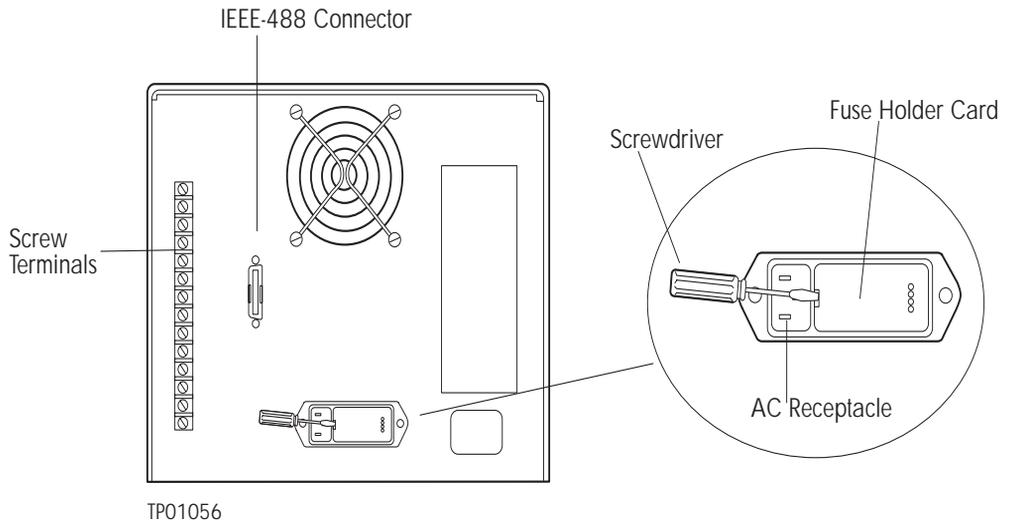
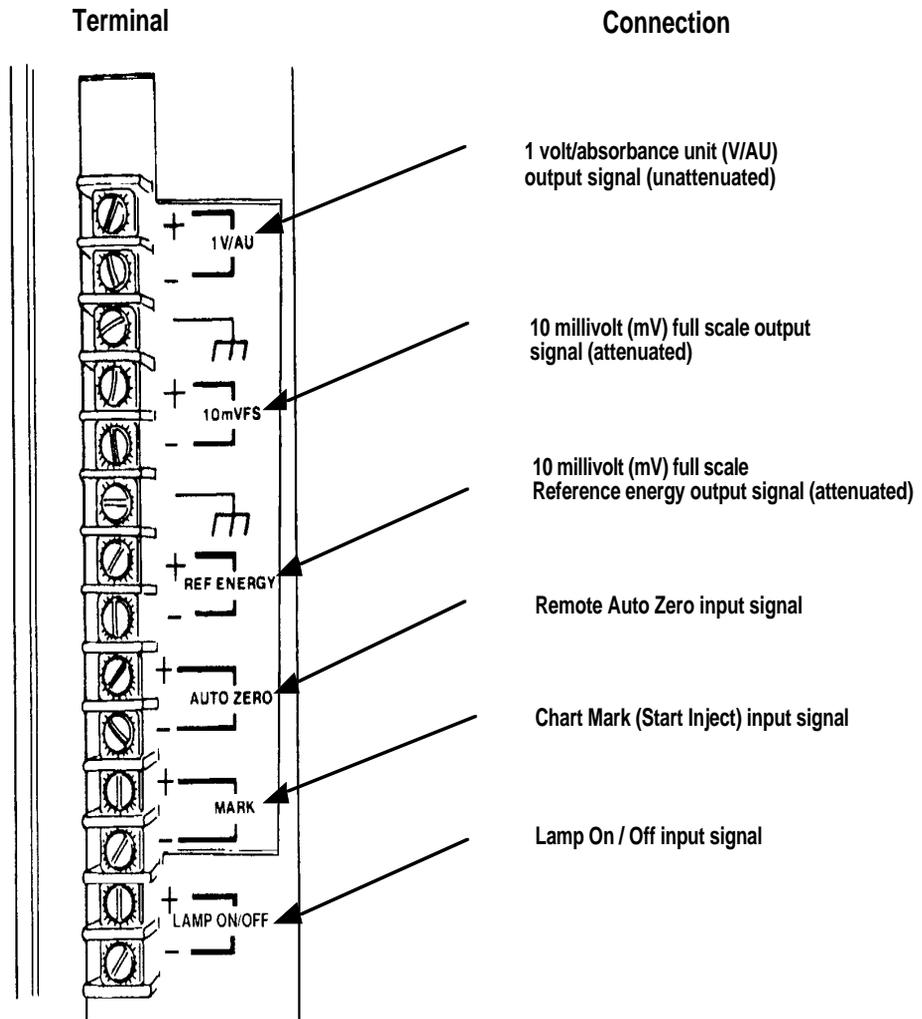

Figure 3-1 Waters 486 Detector Rear Panel Connectors
Figure 3-2 Rear Panel Screw Terminal Connections
The Waters 486 Detector connects to other Waters components through rear panel electrical connections (see Figure 3-1 and Figure 3-2).
Figure 3-1 illustrates the detector rear panel connections.
Figure 3-2 illustrates the Waters 486 Detector rear panel screw terminal connections.
1. Insert the D-shaped connector end of the power cord into the AC power receptacle on the Waters 486 detector rear panel (see Figure 3-1).